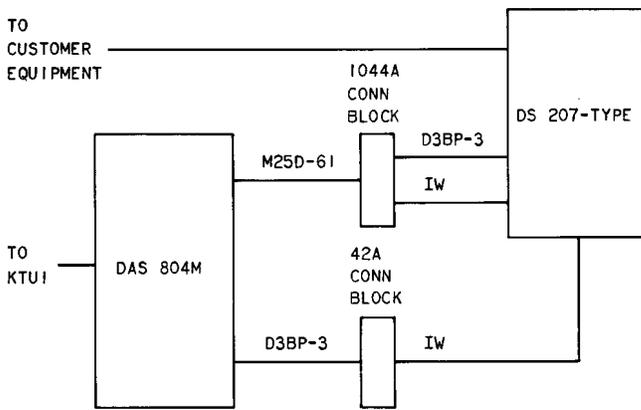

Fig. 13—Block Diagram of Data Set 207 With Data Auxiliary Set 804M
**3.39** ♦ Data Auxiliary Set 804M-type can be used with DS 207-type when the data set is operated as terminal equipment. The following options should be provided in the DAS 804M-type: M, N, F, W, Y, R, and T. To disable the automatic answer feature (option M), the AUTO key should be blocked and the strap between terminals 51 and 52 on TB1 should be removed. Figure 13 is a block diagram of DS 207-type and DAS 804M-type.♦